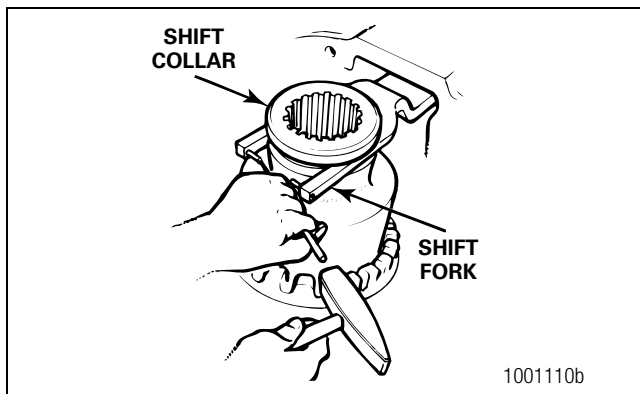

Figure 6.4
1. For carriers with roll pins, tap out the two retainer roll pins, if equipped, until they are level with the inner face of the shift fork. Release the differential lock if it is manually engaged. Figure 6.4.